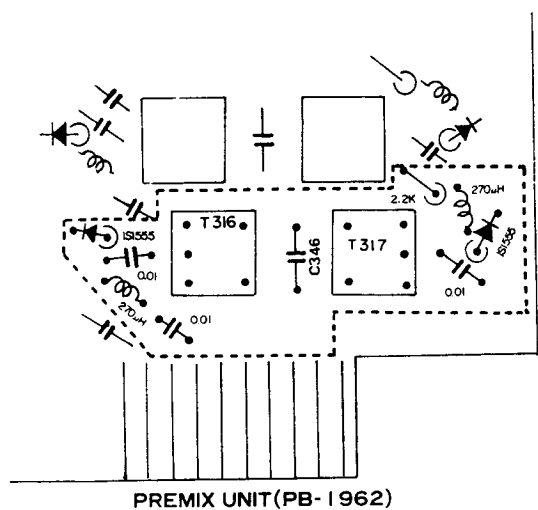

Figure 8.
- (1) Refer to Figures 8 and 9, and install the above parts on PB-1962 and PB-1965.